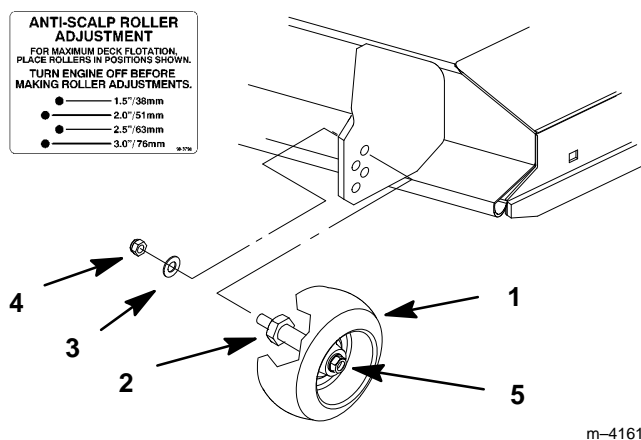

Figure 13
2. After adjusting height-of-cut remove nut and washer while holding stud with wrench (Fig. 13).
Note: Do not remove the wheel nut and washer (Fig. 13).
4. Reinstall the stud nut and washer (Fig. 13).